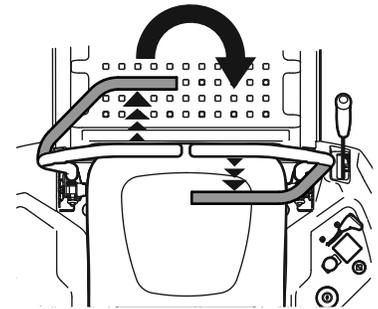

Figure 26
2. To turn clockwise, move the left lapbar drive control lever forward while simultaneously moving the right lapbar drive control lever rearward. See Figure 26.